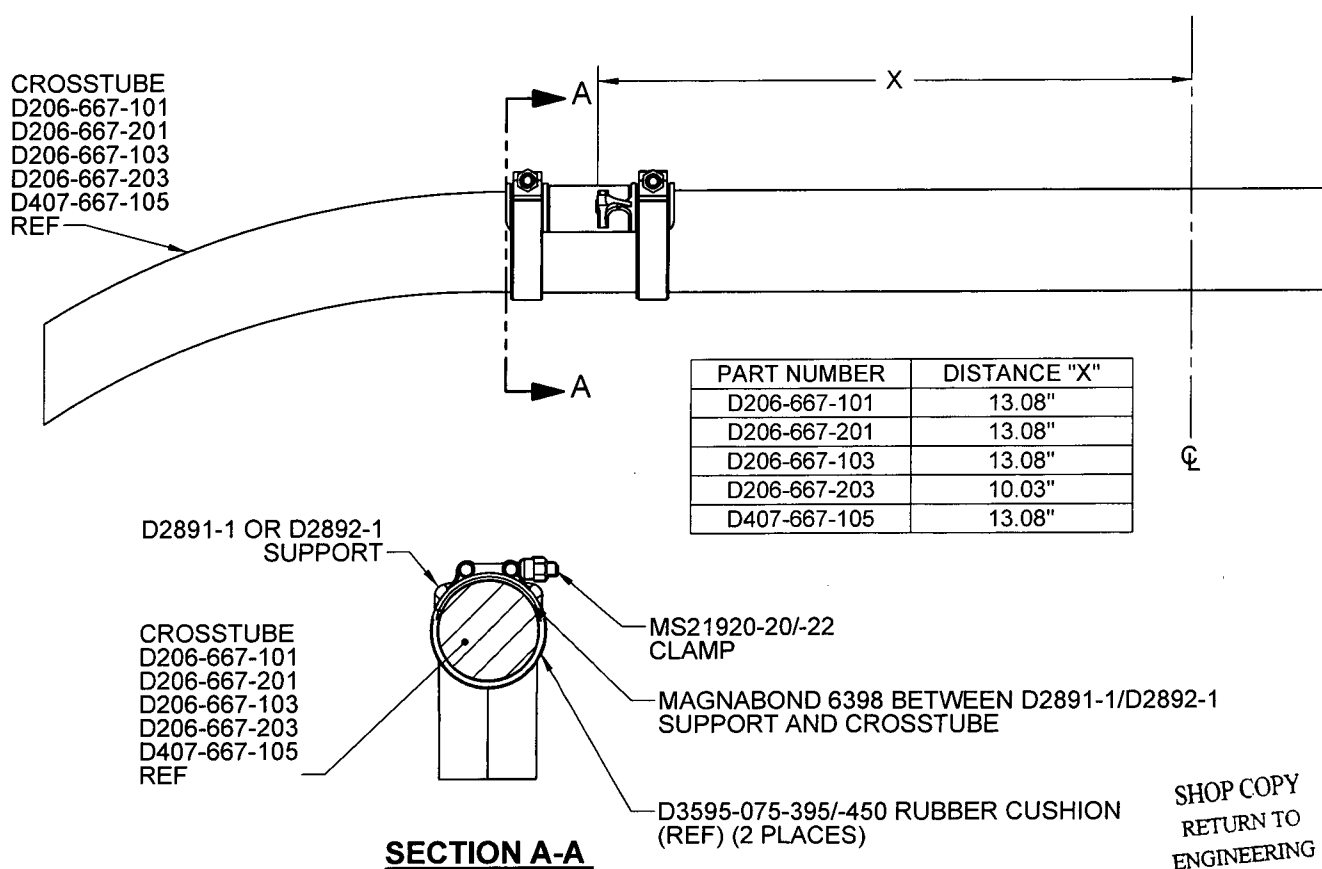

FIGURE 1 - CROSSTUBE SUPPORT
- 2) Remove the qty (2) MS21920-20/-22 clamps from the crosstube that fasten the D2891-1/D2892-1 supports to the crosstube.
- 4) Inspect the crosstube surface underneath the support for corrosion and mechanical damage per items 5.3.1 and 5.3.2 of the 300 hour inspection of ICA-D206-667. Repair damage within acceptable limits per item 5.3.3 of the 300 hour inspection in ICA-D206-667. Touch up finish per item 5.3.9 of the 300 hour inspection.
- 6) Apply a 0.03" to 0.06" thick layer of Magnabond 6398 underneath the D2891-1/D2892-1 support and re-install the support on the crosstube as shown in Figure 1. Position and secure the D2891-1/D2892-1 support on the crosstube using MS21920-20/-22 Clamps. Install a D3595-075-395/-450 Rubber cushion underneath each MS21920-20/-22 Clamp. Torque clamps 80-100 in-lb. Let the D206-667-101/-201/-103/-203 or D412-667-105 crosstube assembly cure as per the Magnabond 6398 instructions before re-installing the crosstube on the aircraft.